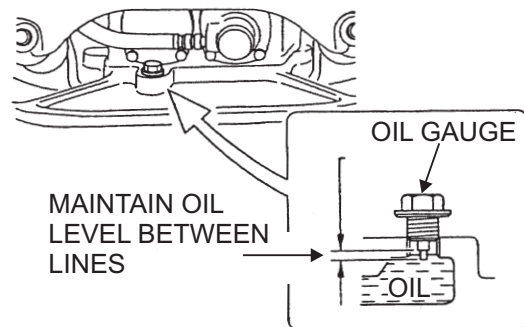

Figure 6. Vibrator Oil Gauge
2. Check vibrator oil level by removing bolt (vibrator oil gauge) as shown in Figure 6. Use a 14-mm wrench to remove bolt. The vibrator oil level should be maintained between the two markings as shown in Figure 6. If oil is required, replace using SAE 10W-30.